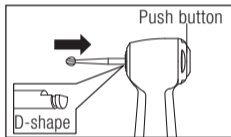

Fig. 2
- 1 Insert the bur until it is correctly seated in place. (Fig. 2)